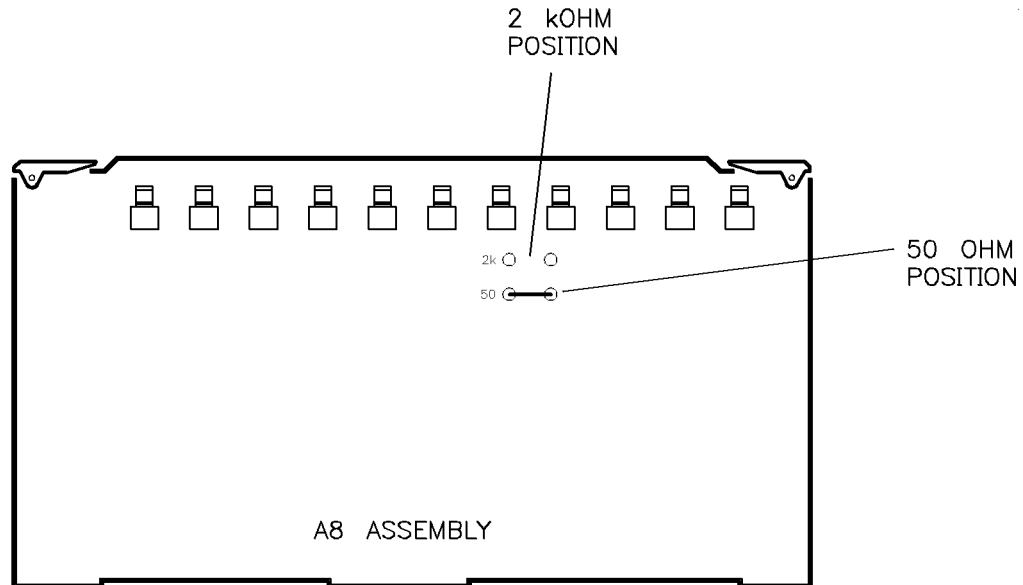

Figure 3-37. A8 Jumper Locations
2. Lift up the A8 modulation generator assembly far enough to access the jumper shown in Figure 3-37.